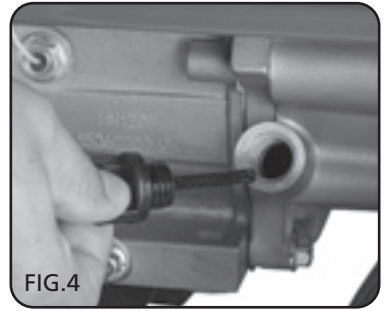

FIG.4
9.2 PREPARING THE GENERATOR - FIGS. 4 - 7
NOTE: The generator has a low oil sensor and will not start if the generator has no oil (Fig.4).